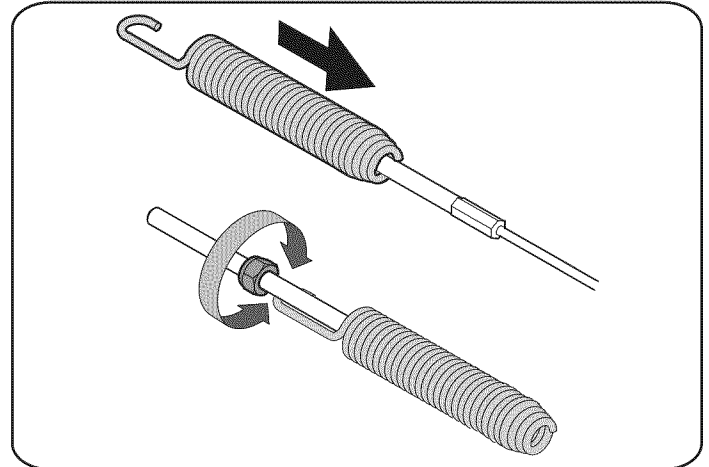

Figure 15
2. Slide the spring up the cable to expose the cable coupler threads and lock nut. Refer to Figure 15.